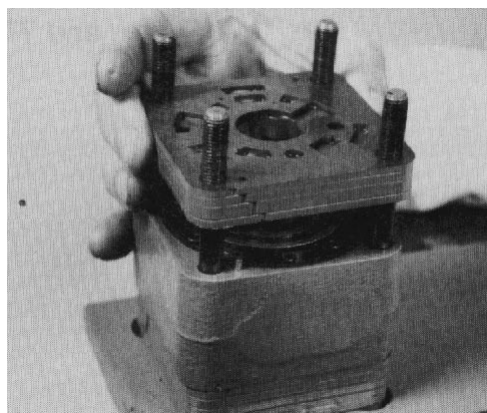

Figure 95
32. Stack the isolation manifold (4 plates bonded together) onto the metering ring, aligning the grooves on the side of the manifold with the grooves on the side of the upper cover plate (Fig. 95). Align the alignment pin holes with the alignment pins in the metering ring. The isolation manifold surface without the recessed slots must be toward the metering ring.